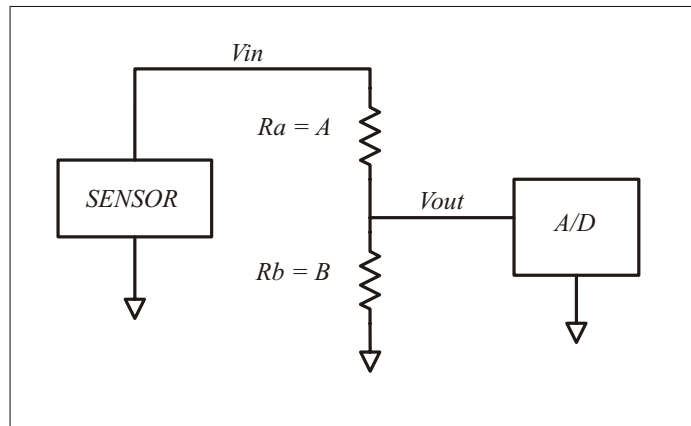

Figure 1: Basic two resistor scaling divider
The simple divider in Figure 1 is suitable where only scaling but no bias is required. Note equation (4) or (5) is the same as equation (1) with $s = B/(A + B)$ and $b = 0$. It is a transformation with no bias or offset. As a specific example, suppose you have a sensor with an output range of 0 to 50 volts and wish to map that into a 0 to 5 volt range. Choosing $A = 90K$ ohms and $B = 10K$ would scale the input by $10/(10 + 90) = 0.10$, and the (0,50) volt sensor would be divided down to (0,5) volts. The circuit is: